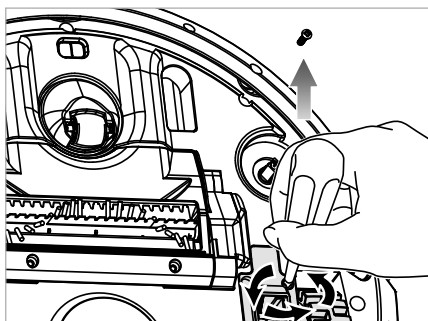

Fig. 19
- 1) Use a Phillips screwdriver (not included) to remove the two screws on the wheel cover 19/35 (See Fig. 19).